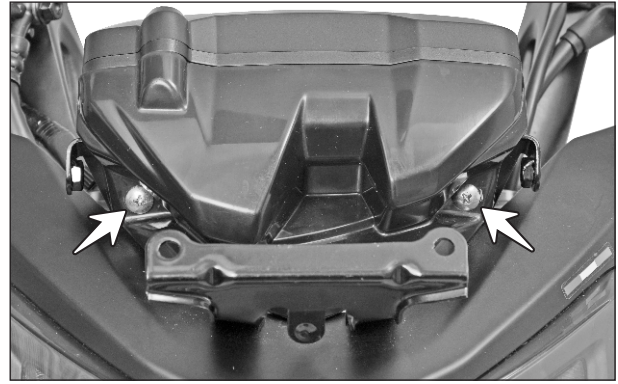

Fig. 5.55
- Remove the CRR pan head screw (M5x16 - 2 nos.) from the mounting of housing speedometer rear and take out the housing speedometer. (Fig. 5.55)